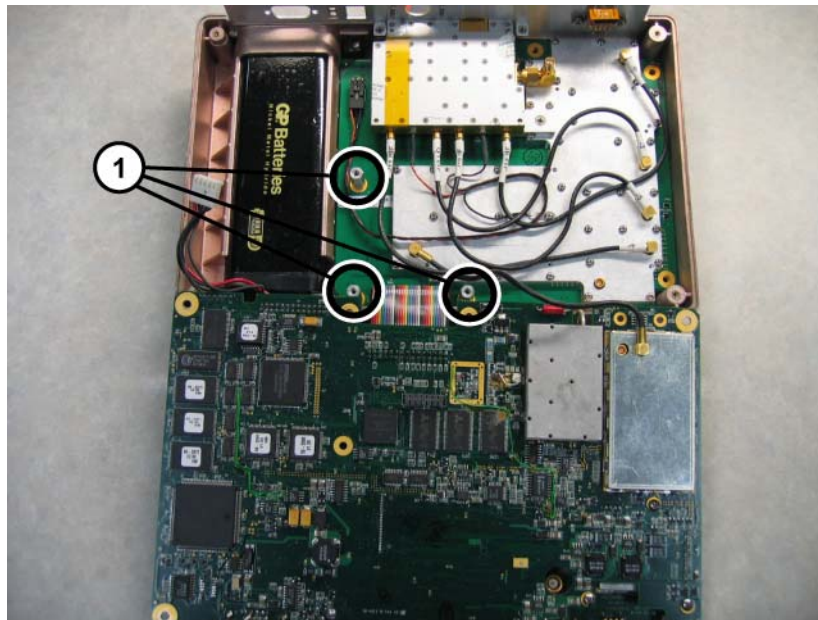

Figure 3-11. Main/RF PCB Removal
8. Fold the Main PCB back to allow access to the RF PCB below and remove the three 0.25” standoffs that secure the RF PCB to the case (Figure 3-11).
Table 3-5. Callout Index for Figure 3-11, "Main/RF PCB Removal"